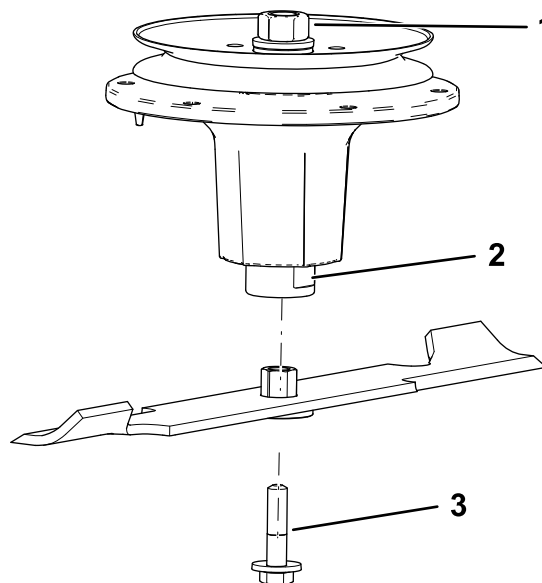

Figure 81
2. Install the bushing/blade assembly into the spindle shaft (Figure 81).